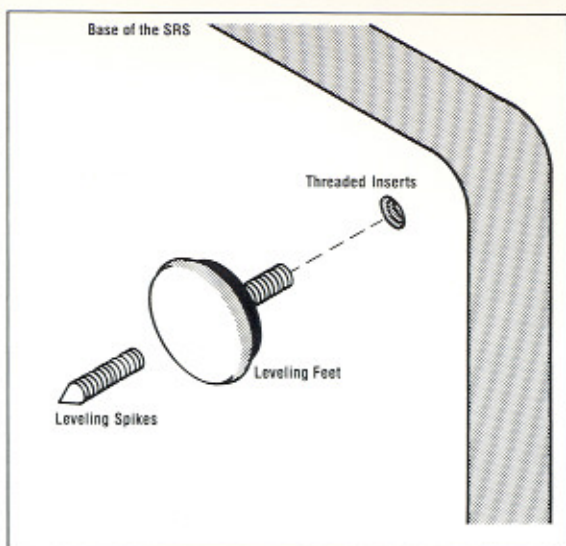

FIGURE 1b. Installation of the Leveling Feet
- G. There is a box containing hardware items banded to the left channel carton. Cut the bands retaining this box, observing the precautions stated in step D, then open it to find the eight leveling feet. Locate the four threaded inserts in the corners of the underside of the base of the speaker and mount four of the leveling feet (figure 1b). Carefully lift the top end of the speaker until the system is oriented upright, and move it off the lower cap of the carton and out of your work area to allow room for unboxing the left channel unit.